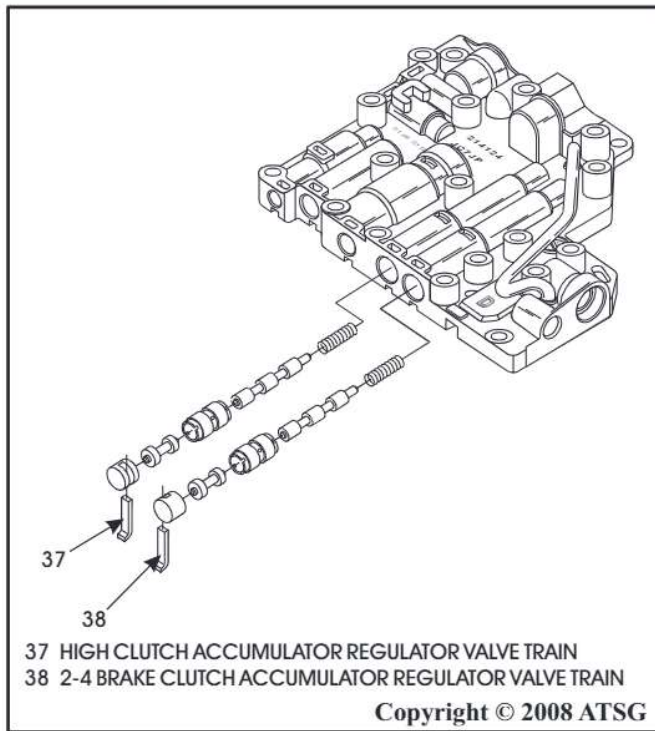
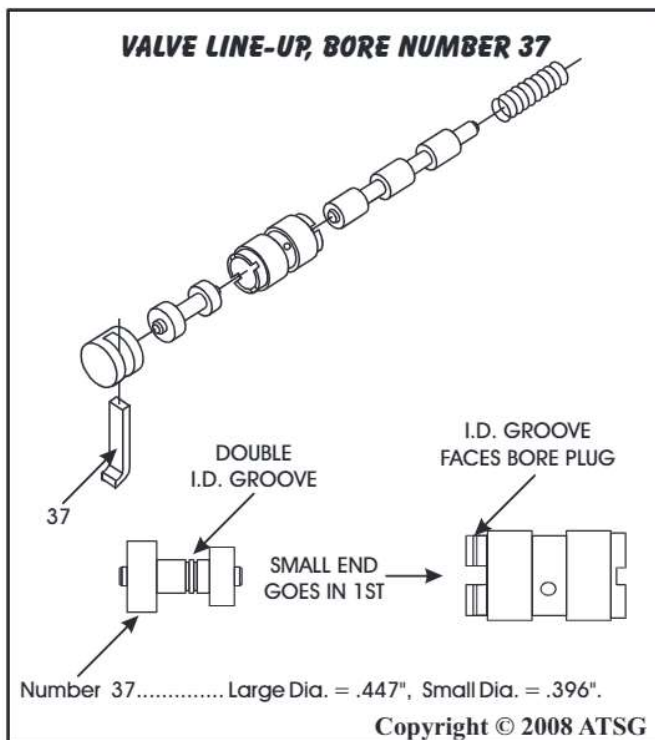

Figure 92
Figure 93
6. Bore numbers 37 and 38, shown in Figure 92, are **almost** identical, when inspecting visually, but the diameter of the valves inside of the sleeves are different. The valve lands are also different diameters on the same valve. Refer to Figure 93 and 94 for the valve diameters and identification grooves.
7. The sleeves both have the same O.D. which means they will not interchange, even though they fit in the bore. The sleeve from bore No. 37 has I.D. groove in the outside diameter of lugs, as shown in Figure 93, and this sleeve along with the proper valve must go in bore number 37, and the same for bore number 38.
9. Refer to Figure 93 and 94, and use extra care when installing the valve trains into bore No. 37 and 38.